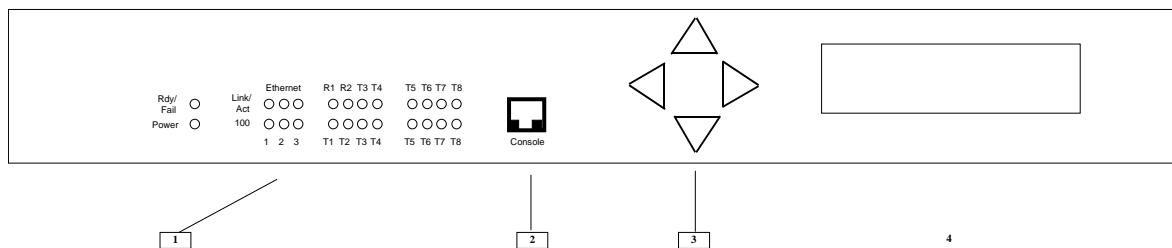

Figure 46 : PLines8 front panel
- A2 (Indicators) aid is provided by the dual LEDs located on the front panel of the PLINES8 (Figure 46). The following table gives the meaning of the different dual LEDs: